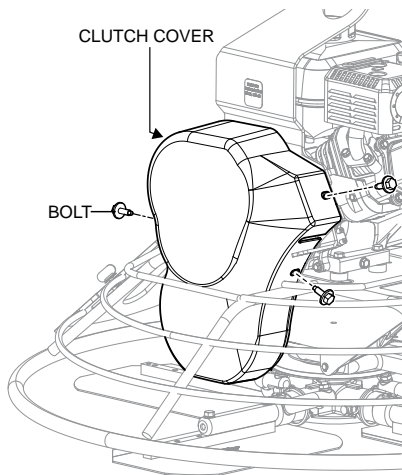

Figure 15. Clutch Cover Removal
- Using a 7/16" wrench remove the three 1/4" retaining bolts (Figure 15) that secure the clutch cover to the frame.